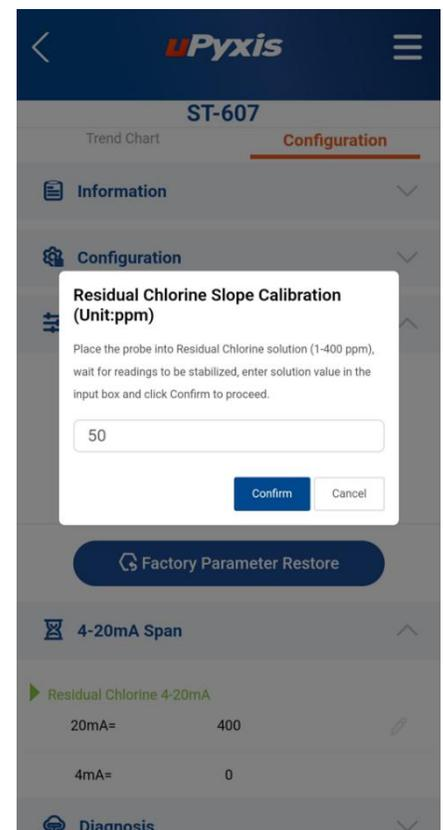

Figure 7.
1. After confirming sensor cleanliness as outlined above, place the sensor into a beaker containing deionized (DI) water.
5. Once the displayed residual chlorine and temperature values are stable, click Slope Calibration to carry out the slope calibration. Tap **SLOPE CALIBRATION** in the uPyxis app. Enter the residual chlorine concentration (1-400 ppm) in the dialog window as in *Figure 7*.